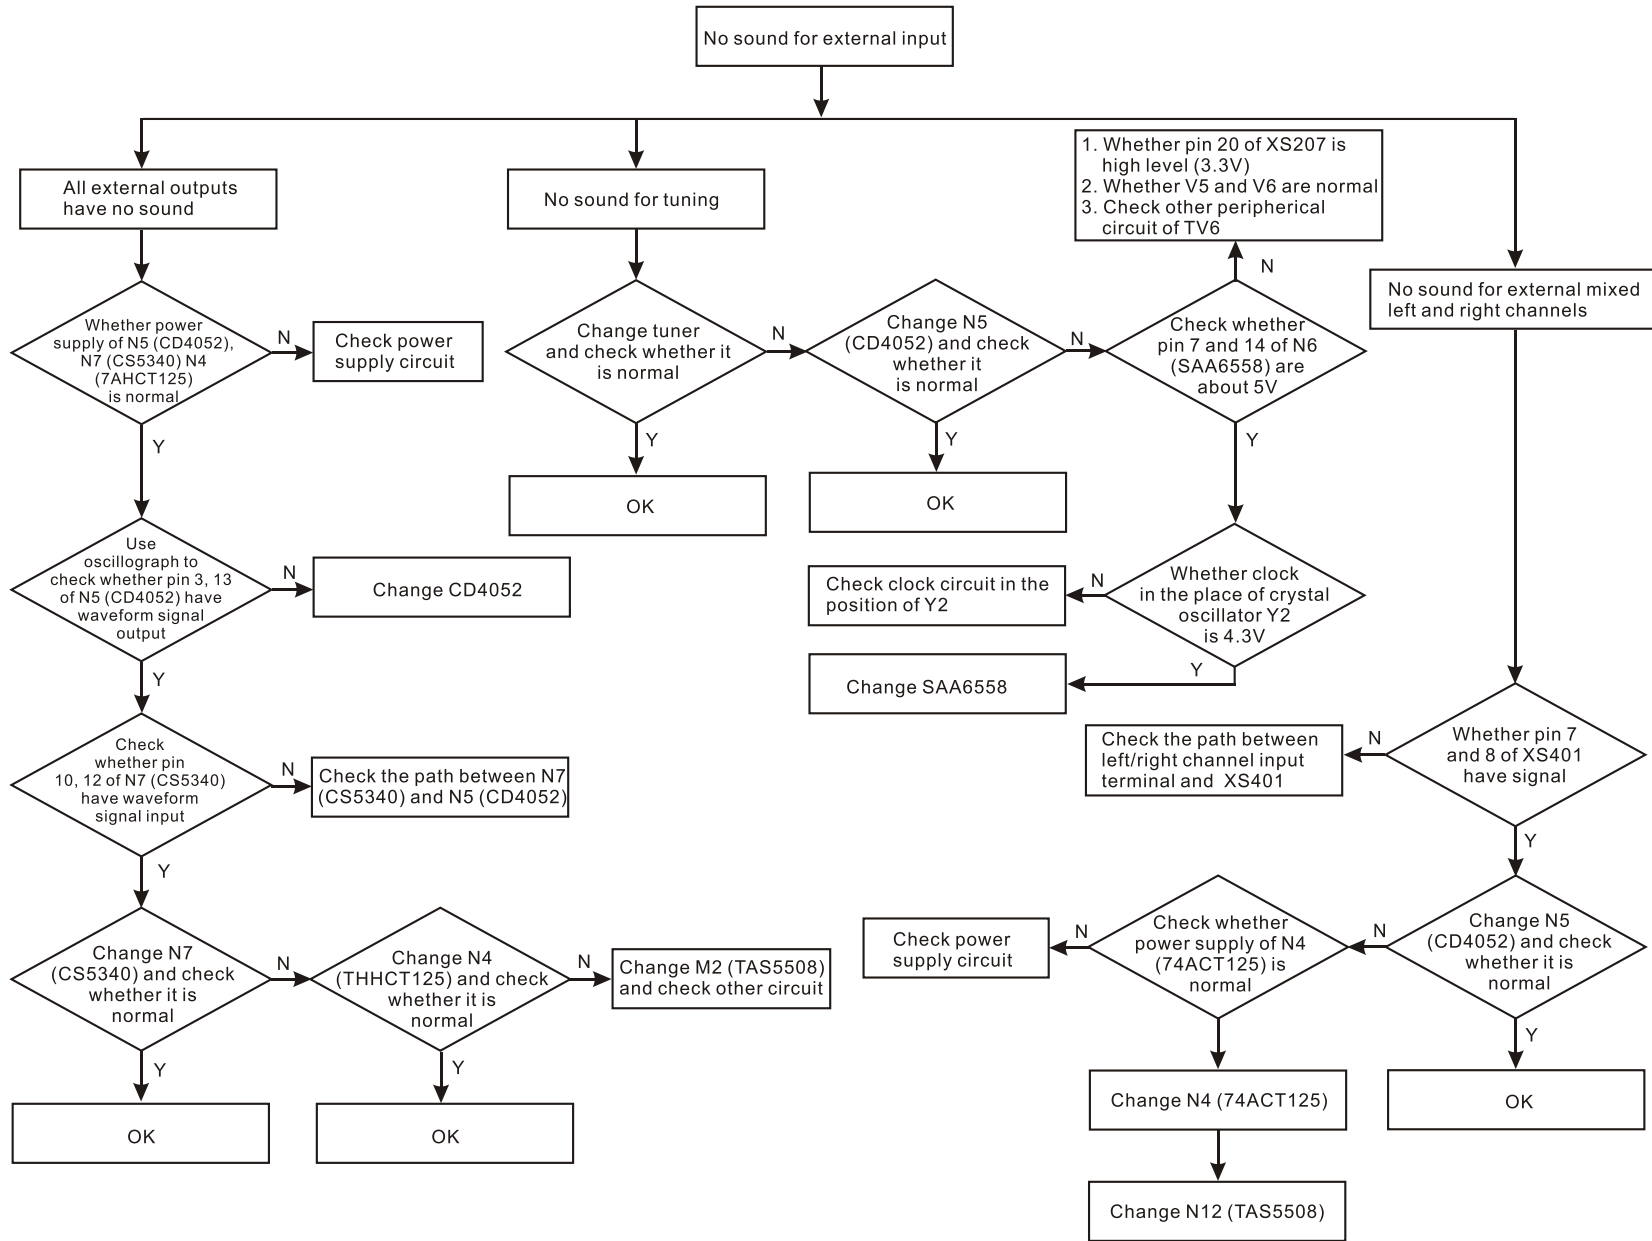

Figure 3.5.4.1 Troubleshooting flow chart for no sound of external input
3.5.4 Troubleshooting for no sound of external input is shown as the following figure 3.5.4.1: